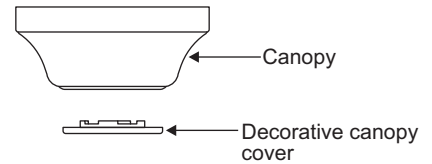

Figure 8
2. Remove the decorative canopy cover from the canopy by turning canopy cover counterclockwise. (Fig. 8)